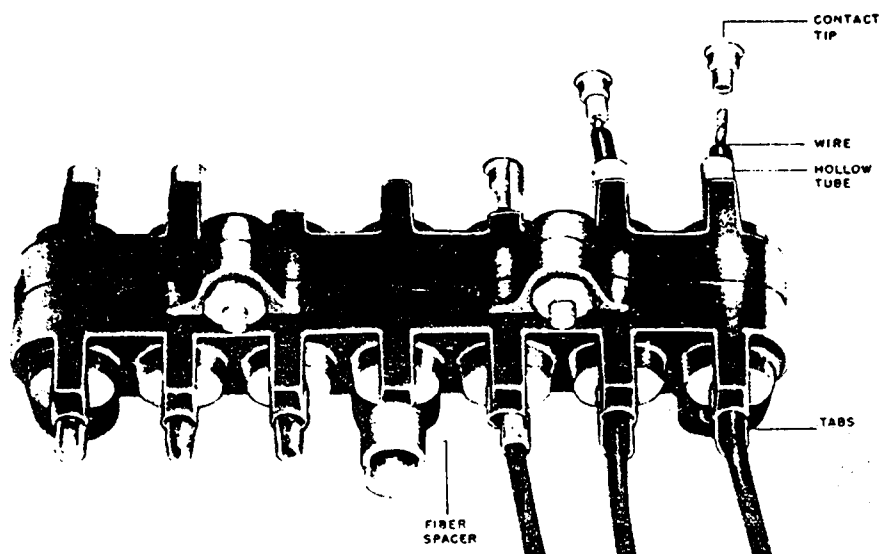

Figure 2. (8017973) Movable Secondary Disconnects
3. If the breaker is a drawout type, with secondary disconnects, Figure 2, remove the secondary disconnect supporting bracket from the breaker back frame. Also remove any wiring bundle retainers that may be attached to the back frame.
4. Remove one elastic stop nut from each of two studs (3), which tie the upper ends of the mechanism frame to the back frame of the breaker.
#### SECONDARY DISCONNECT, FIGURE 2.